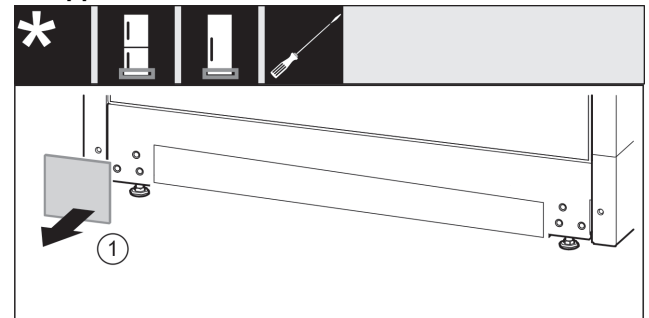

Fig. 33
- ▶ Remove the cover Fig. 33 (1).